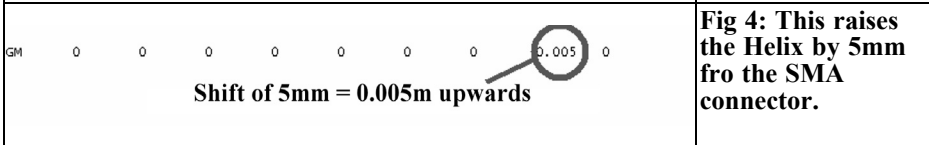

Fig 4: This raises the Helix by 5mm from the SMA connector.
- “GM” (Geometry Move card) pushes the Helix upward by 5mm (Fig 4).